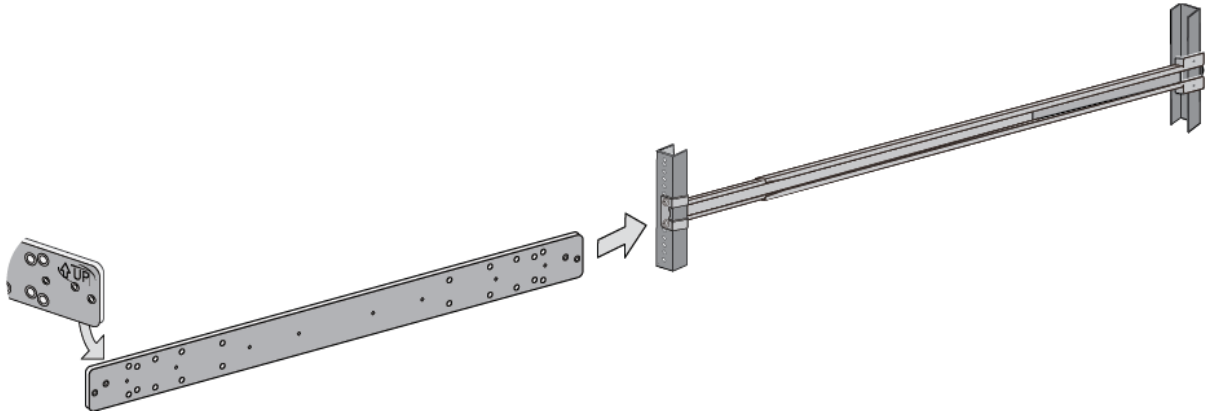

Figure 106. Inserting an Inner Rail into an Outer Rail
1. Slide one of the inner rails into an outer rail. Be sure that the UP arrow on the inner rail is pointing up. Refer to Figure 106 on page 181.